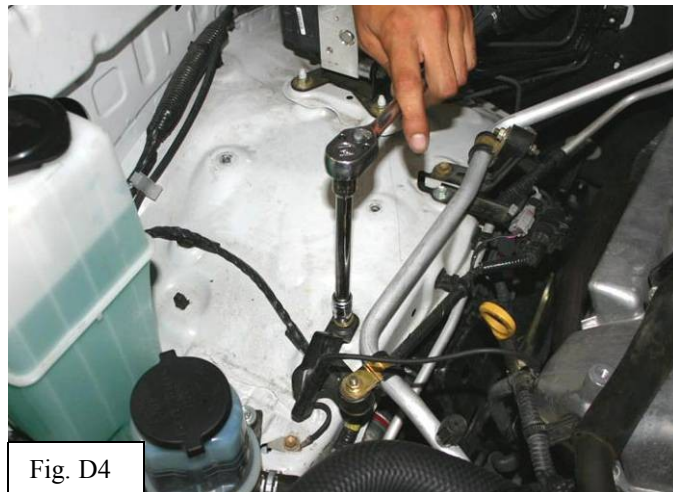

Fig. D4
4. Remove M8 bolt that secures the factory AC line mounting bracket. (Fig. D4)